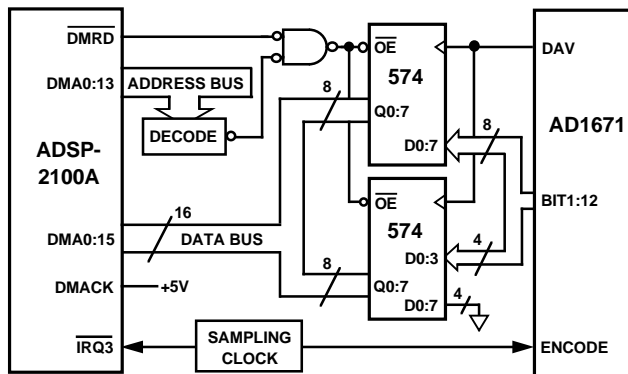

Figure 16. AD1671 to ADSP-2100A Interface
Figure 16 demonstrates the AD1671 to ADSP-2100A interface. The 2100A with a clock frequency of 12.5 MHz can execute an instruction in one 80 ns cycle. The AD1671 is configured to perform continuous time sampling. The DAV output of the AD1671 is asserted at the end of each conversion. DAV can be used to latch the conversion result into the two 574 octal D-latches. The falling edge of the sampling clock is used to generate an interrupt (IRQ3) for the processor. Upon interrupt, the ADSP-2100A starts a data memory read by providing an address on the DMA bus. The decoded address generates OE for the D-latches and the processor reads their output over the Data (D) bus. Reading the conversion result is thus completed within a single processor cycle.